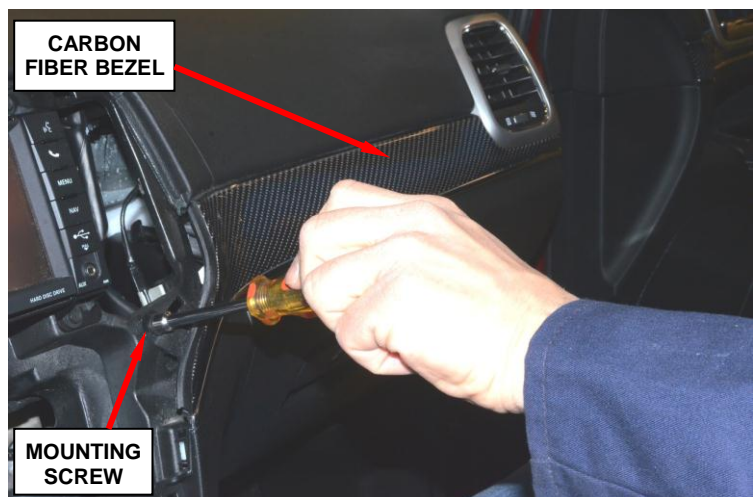

Figure 2 – Bezel Mounting Screw
3. Remove and save the right side carbon fiber bezel mounting screw (Figure 2).